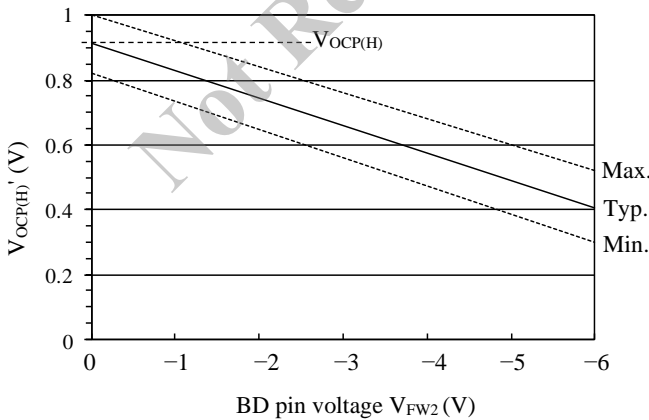

Figure 9-28 Overcurrent threshold voltage after input compensation, $V_{OCP(H)'}$ (reference for design target values)
- 4) $V_{OCP(H)'}$ is the overcurrent threshold voltage after input compensation. Figure 9-28 shows a relationship of $V_{OCP(H)'}$ and BD pin voltage, V_{FW2} . V_{FW2} at maximum AC input voltage is calculated by using Equation (7). $V_{OCP(H)'}$ and this variation are gotten by using the result from Figure 9-28. When $V_{OCP(H)'}$ including variation becomes the Bottom-Skip Operation Threshold Voltage 1, $V_{OCP(BS1)} = 0.572$ V, or less, the operation of IC is one bottom-skip only and the output current may be less than target output current, I_{OUT} .
Referring to Figure 9-28, when V_{FW2} is compensated to -2.92 V , the overcurrent threshold voltage after input compensation, $V_{OCP(H)}$, is set to about 0.66 V (typ).